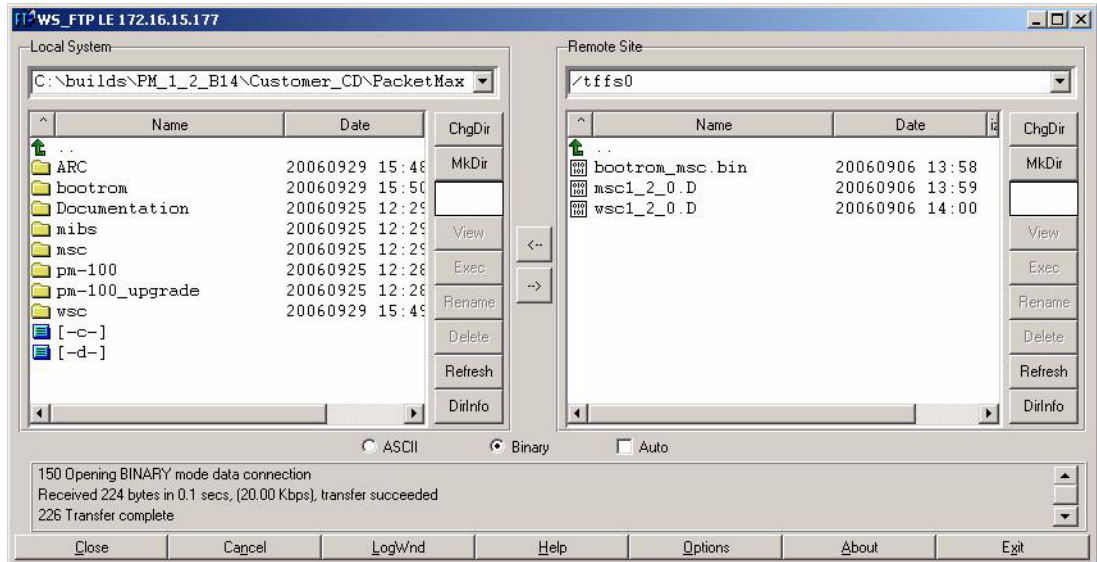

Figure 5-15 Ftp page - MSC upgrade
5. Go to the “wsc” folder and copy “wsc1_0_0.D” file to the “/tffs0” of the MSC Card. Figure 5-15 shows the ftp screen, once the transfer is done.